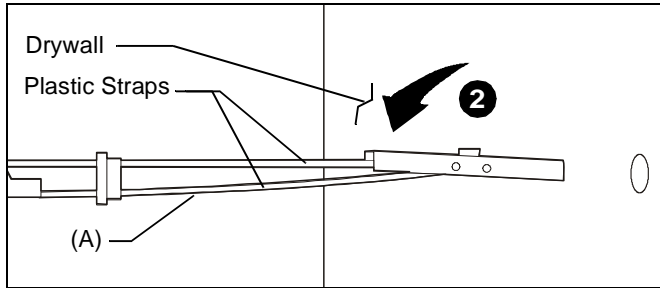

Figure 1
2. Hold metal channel on anchor (A) flat alongside plastic straps and slide channel through hole. (See Figure 1)